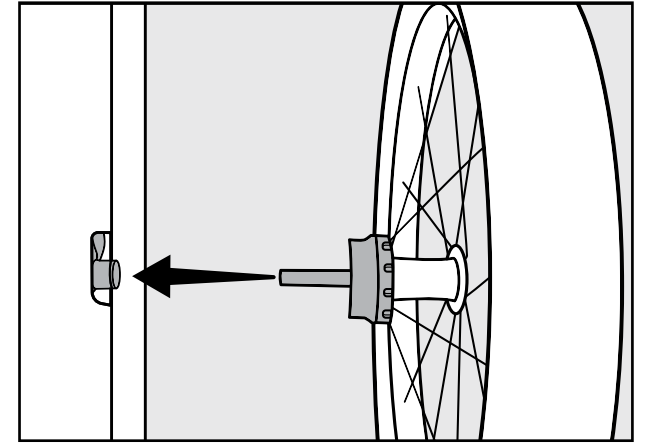

Figure 12
2. Insert wheel axle into axle receiver, and then release the button (Figure 12). Pull firmly on wheel to confirm the axle is fully engaged.